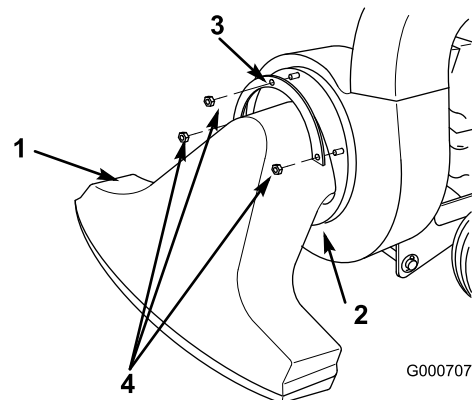

Figure 10
1. Mount the lower edge of the snout flange into the mounting bracket (Figure 10).
2. Position the retainer flange over the 3 bolt ends protruding through the snout (Figure 10).
3. Secure the snout and flange to the blower with 3 washers and locknuts (Figure 10).